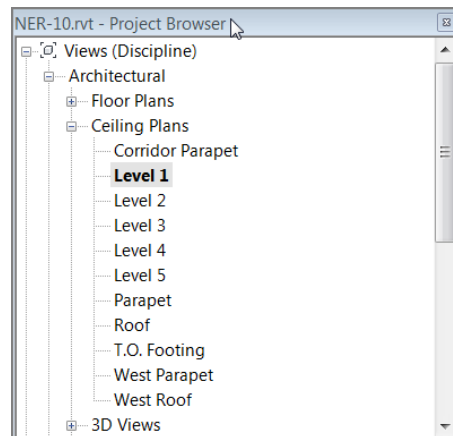

FIGURE 9.1: The Ceiling Plans category
1. Go to the Level 1 ceiling plan, as shown in Figure 9.1 (remember, this is a ceiling plan, not a floor plan).